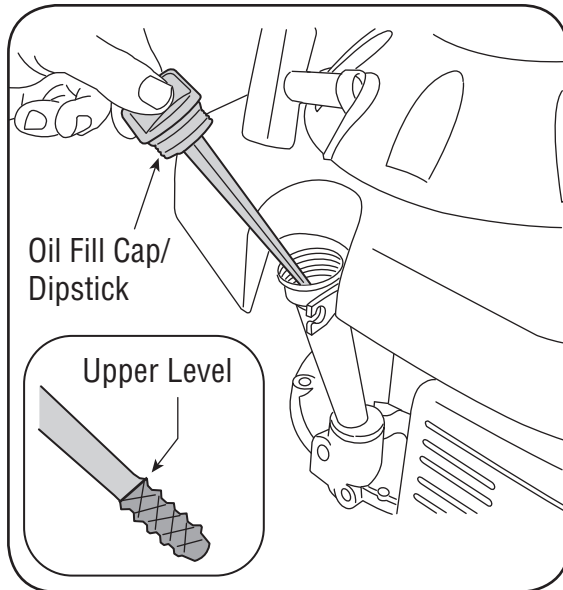

Figure 3
1. Remove the oil filler cap and wipe the dipstick clean. See Figure 3.
3. If the level is low, slowly add oil to the upper limit on the dipstick. See Figure 3 inset.